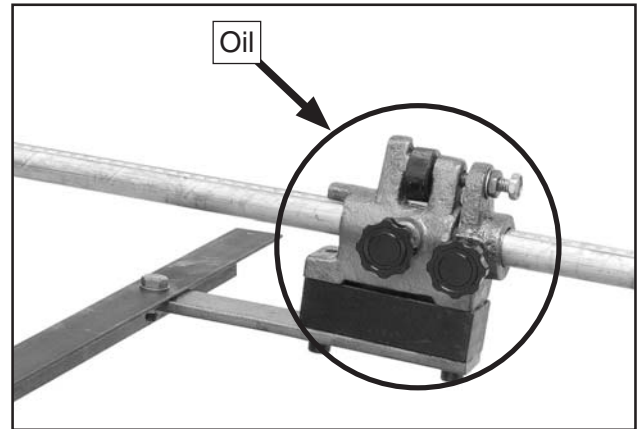

Figure 14. Micro-adjusting stop lubrication.
- Micro adjusting stop assembly (**Figure 14**).